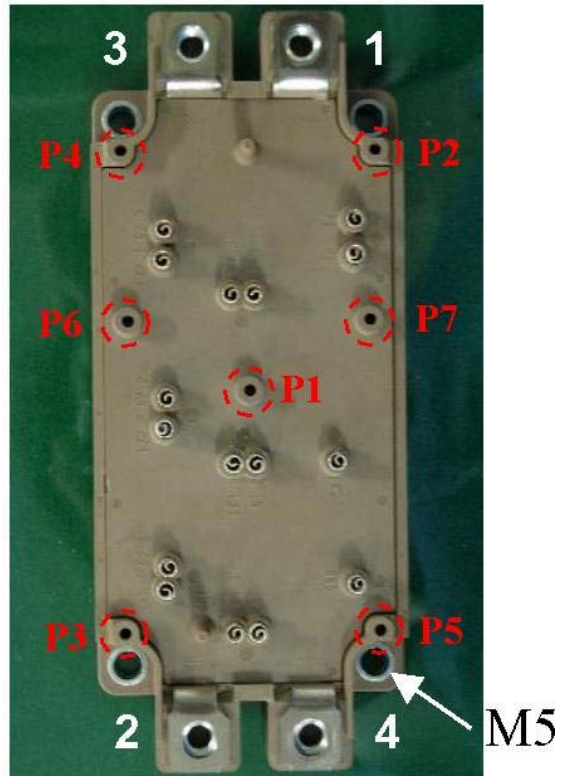

Fig.1 Mounting holes 1-4 in M260 modules
(b) Pre-torque is recommended with 1/3 of the final torque with sequence (1) - (2) - (3)-(4) in Fig.1
(a) Minimum and maximum torque for mounting M2.6 self tapping screws indicated P1 to P7 in Fig.1:
(b) Pre-torque is recommended with 1/3 of the final torque with sequence P1-P2-P3-P4-P5-P6-P7 in Fig.1.
(c) Final torque must be within specified force of 0.4 to 0.6Nm with sequence P1-P2-P3-P4-P5-P6-P7 in Fig.1.
(a) Hole for PCB; P1, P6 and P7 in Fig. 1
(b) Holes for PCB; P2, P3, P4 and P5 in Fig. 1